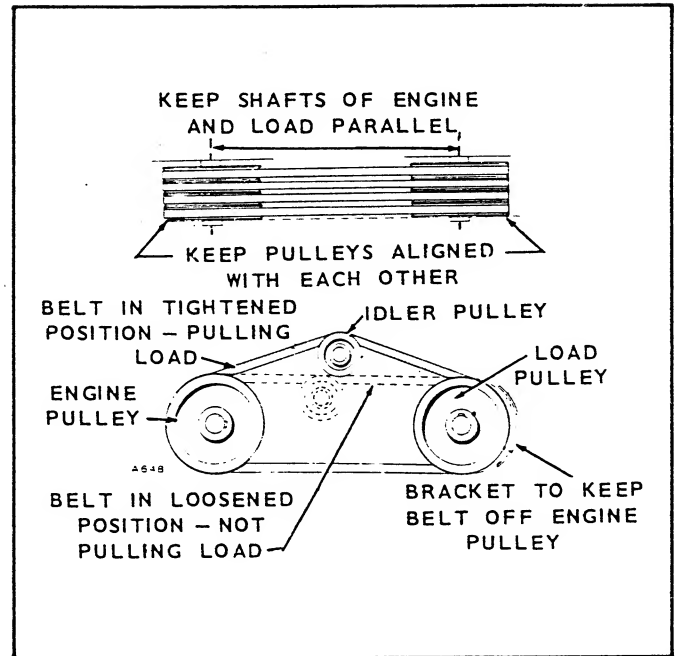

FIGURE 2. DRIVE BELT INSTALLATION
**Belt Drive:** V-belts are preferable to flat belts. Consult a reliable belting supplier for recommendations regarding size of pulleys, number of belts, etc. required. A typical belt drive installation is shown in Figure 2.